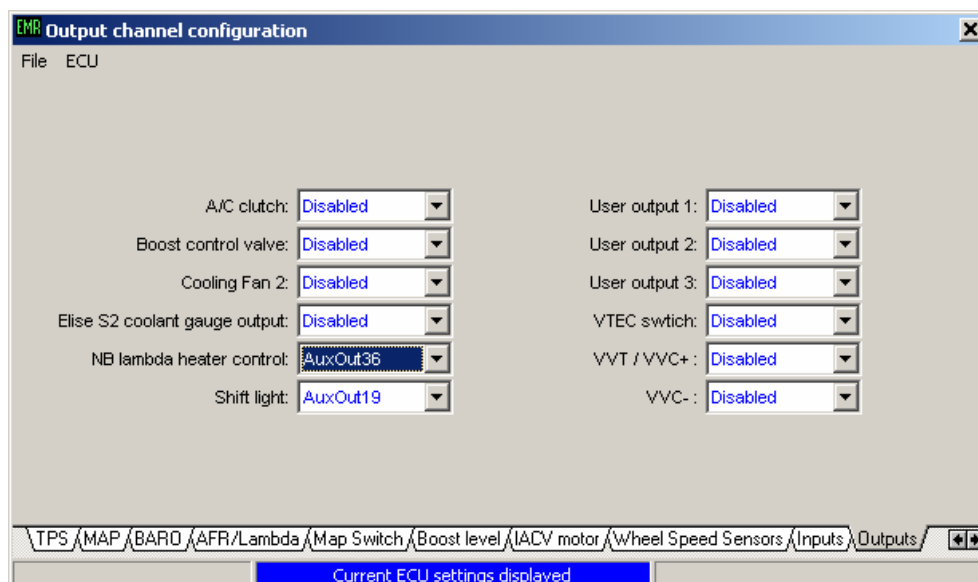

figure 2.
- For applications where the ECU controls the lambda sensor heater, e.g. Rover K Caterham/Elise, the "NB lambda heater control" output must be set to AuxOut36 as shown in figure 2 below :-